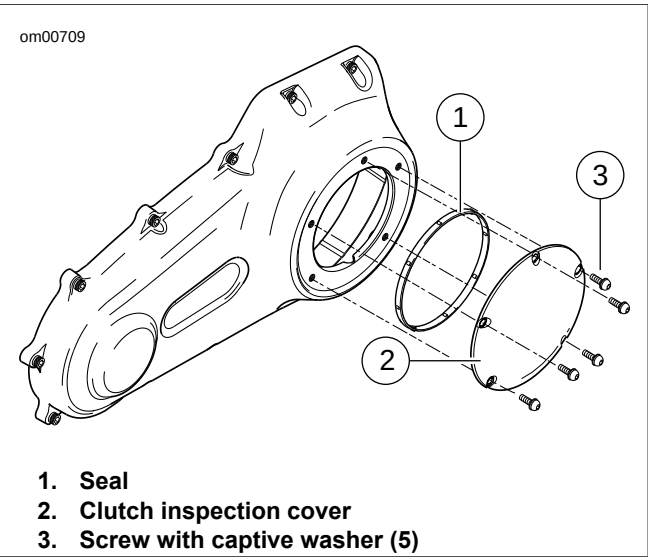
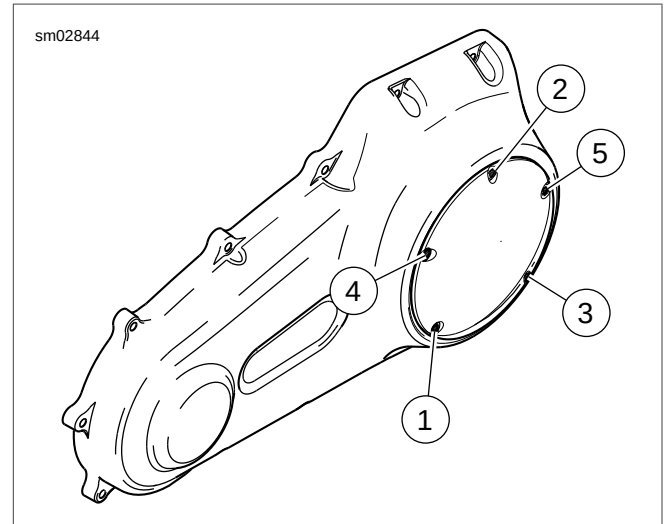

Figure 1-11. Clutch Cover
Figure 1-12. Clutch Cover Torque Sequence
7. See Figure 1-11. Remove screws with captive washers (3) and clutch inspection cover (2).
8. Remove seal (1). Wipe oil from groove in chaincase cover and mounting surface.
- b. See Figure 1-11. Position **new** seal (1) in groove in clutch inspection cover. Press each of the nubs on seal into the groove.
- c. Secure inspection cover with screws with captive washers (3).
- d. See Figure 1-12. Tighten in sequence shown to 84-108 **in-lbs** (9.5-12.2 Nm).